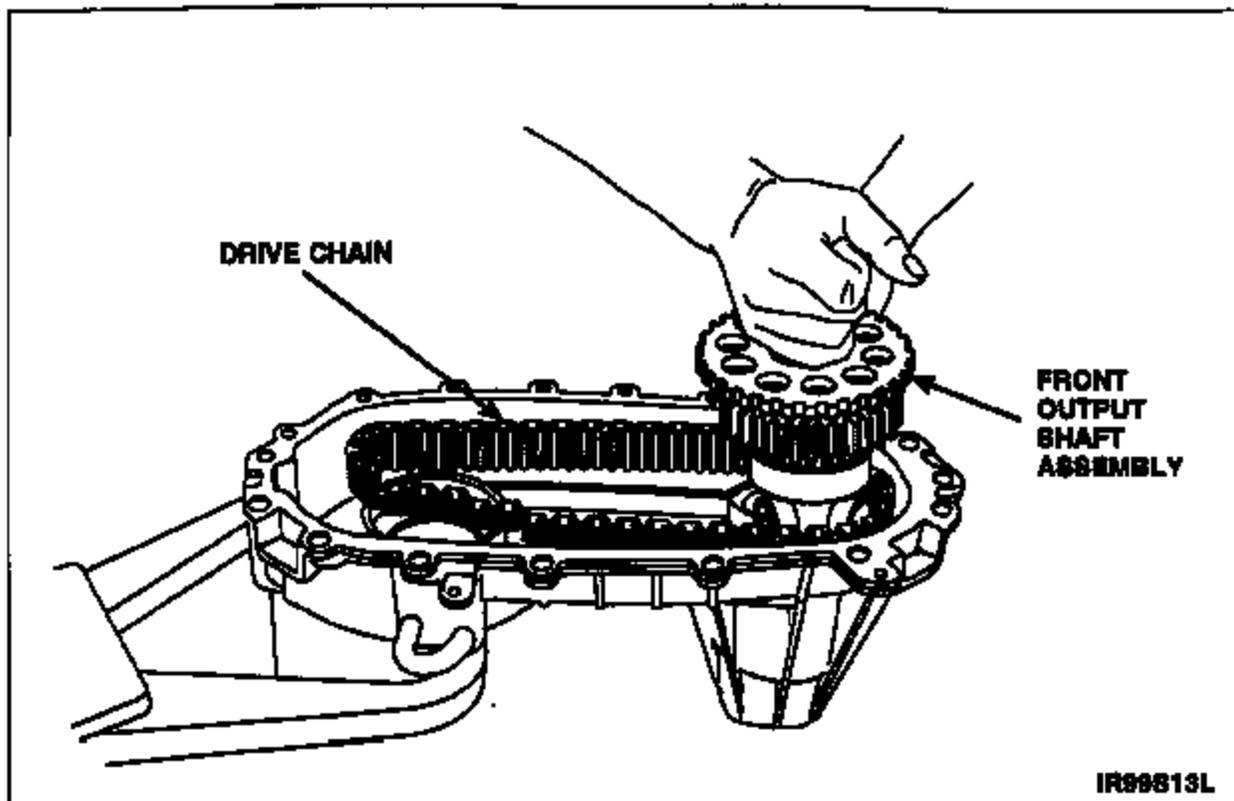

FIGURE 12
42. Remove the front output shaft assembly and drive chain. See Figure 12.